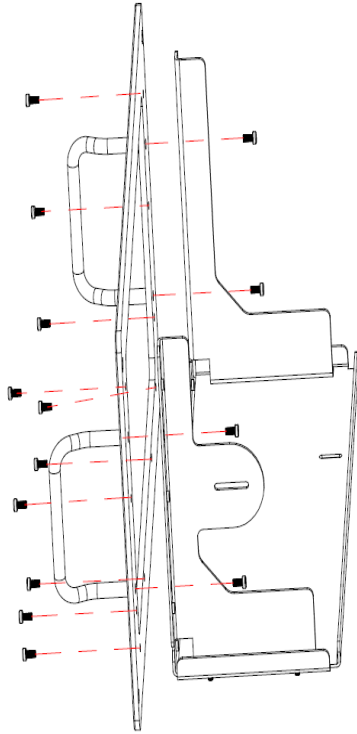

Figure 2
2.安装五金前面板：将五金前面板用 10pcs M4\*10 的螺钉将其固定在上一步骤组装好的五金框架上，见图 2；
Install Hardware Front Panel: Fix Hardware Front Panel with 10pcs M4\*10 Screw on Hardware Frame which is assembled step by step, as shown in figure 2;
3.安装提手：通过 4pcs M5\*10 螺钉，将提手固定在五金前面板上，见图 2；
Install the handle: fix the handle on the front panel By 4pcs M5\*10 screws, as shown in figure 2;